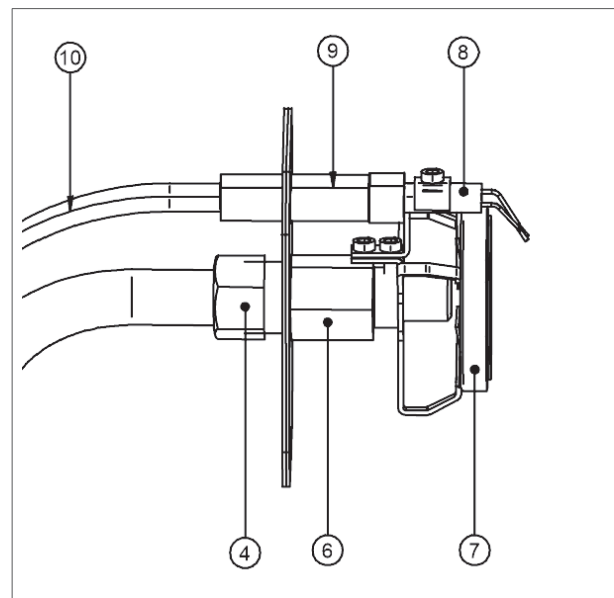

Figure 18 - Parts of the burner unit
The burner consists of the following parts (figure 18):
2. Remove the gas pipe by unscrewing the compression fitting (figure 18 - 4).
3. Remove the two connecting boots (figure 18 - 9) from the ignition electrode by gently pulling at the cables.